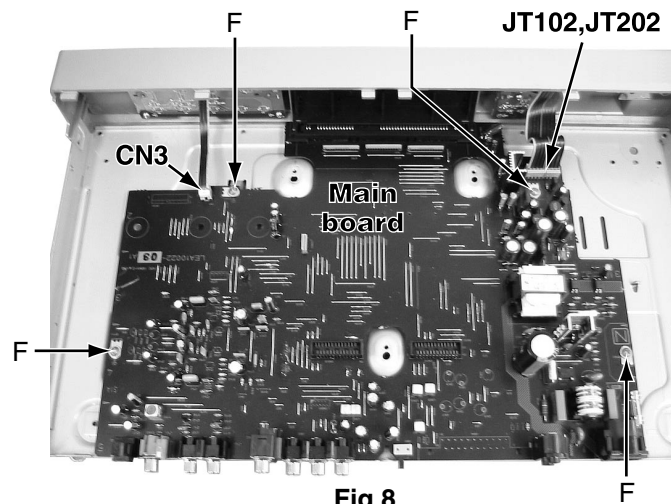

Fig.8
■ **Removing the main board (see Fig.8)**
(See Fig.8 and 9)